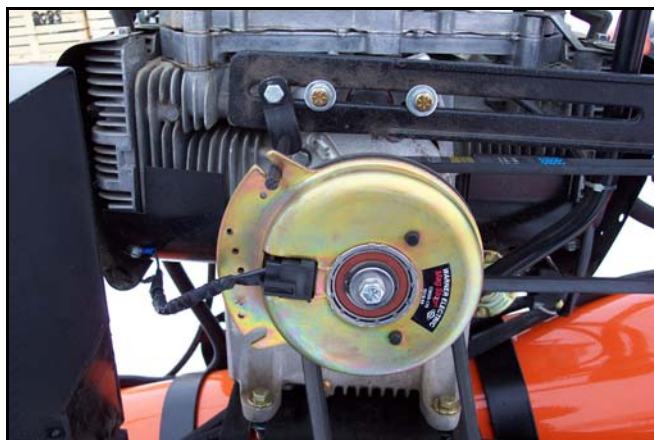

Figure 3.20
1. Attach spacers (4) and small pump mount (6), to motor using 3/8" x 2-1/2" bolts (13), lock washers (20), and flat washers (19).
2. Connect clutch stop bracket (11) with 3/8" x 1-1/2" bolt (12) and locknut (17).
3. Install electric clutch (30) and motor pulley with 3/8" x 3" bolt (14). Secure top with clutch stop bracket (11). See Figure 3.20.